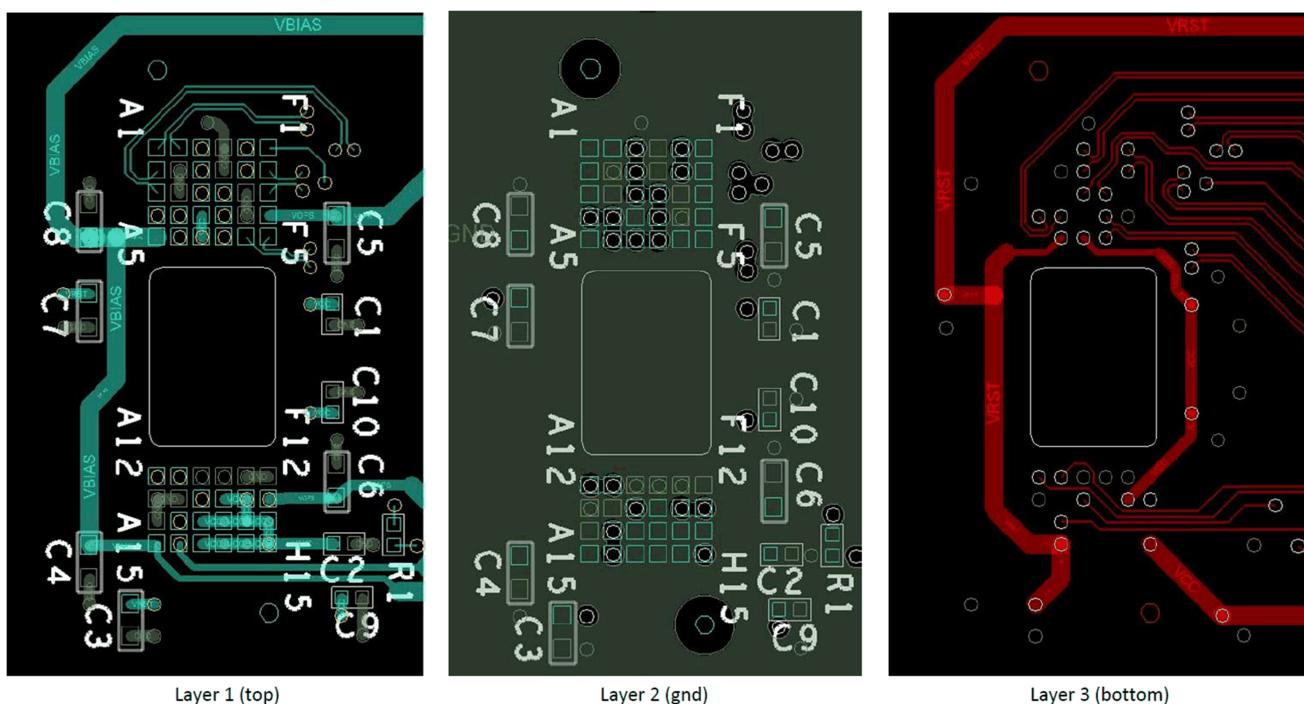

图 10-1. Power Supply Connections
- Minimize vias, layer changes, and turns for the HS bus signals. Refer to 图 10-1.
- Minimum of two 100-nF (25 V) capacitors - one close to V_{BIAS} pin. Capacitors C4 and C8 in 图 10-1.
- Minimum of two 100-nF (25 V) capacitors - one close to each V_{RST} pin. Capacitors C3 and C7 in 图 10-1.
- Minimum of two 220-nF (25 V) capacitors - one close to each V_{OFS} pin. Capacitors C5 and C6 in 图 10-1.
- Minimum of four 100-nF (6.3 V) capacitors - two close to each side of the DMD. Capacitors C1, C2, C9 and C10 in 图 10-1.